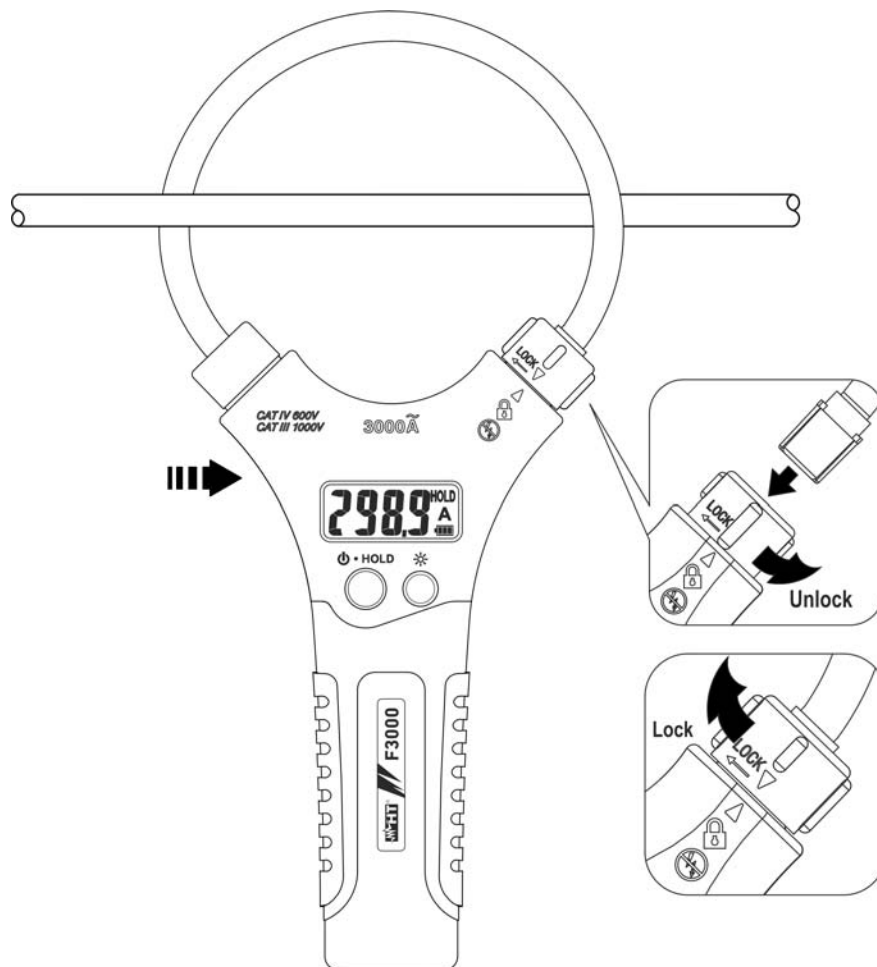

Fig. 2: Opening/closing flexible clamp jaw
- Put the conductor as close as possible to the middle of the jaws in order to meet the meter accuracy specifications (see Fig. 2)
- Put the hand below the LCD display during the measurement as indicated by the arrow in Fig. 2
1. Rotate of a quarter in the counterclockwise direction the fixing jaw connector to unlock the jaw (see Fig. 2)
3. Replace the jaw in the seat and rotate of a quarter in the clockwise direction the fixed jaw connector up to align the two arrows on the plastic case to lock the jaw (see Fig. 2)